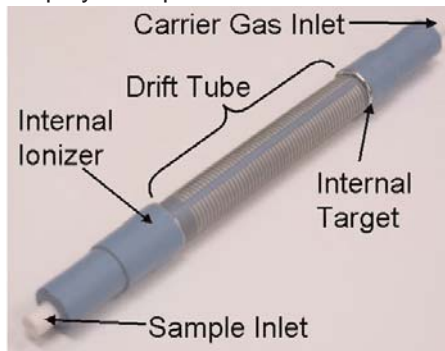

Fig. 1. A miniature ion mobility spectrometer
**L**ow Temperature Cofired Ceramic (LTCC) is applicable to a broad range of micro systems. In particular, the ability to customize processing order and material choices on LTCC has enabled new features to be constructed. Unique shapes in LTCC permit the simplification of complete systems, as in the case of a miniature ion mobility spectrometer (IMS, Fig. 1). In this case a rolled tube has been employed to provide hermetic exter-